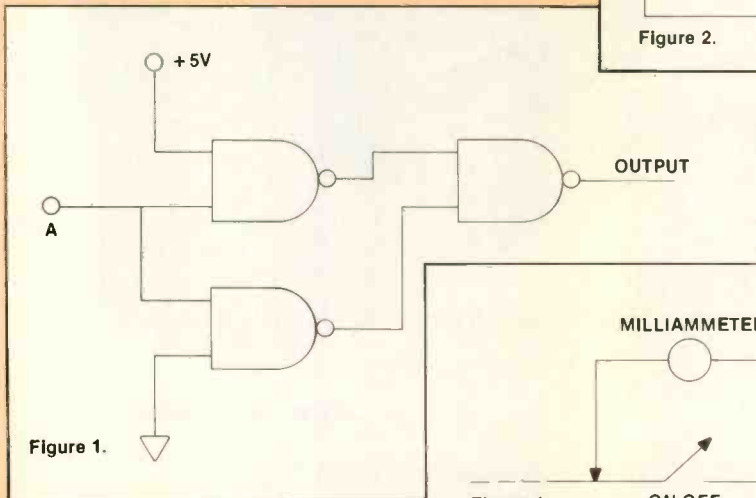

Figure 1.
- When a logic 1 is delivered to point A in Figure 1 the output should be at